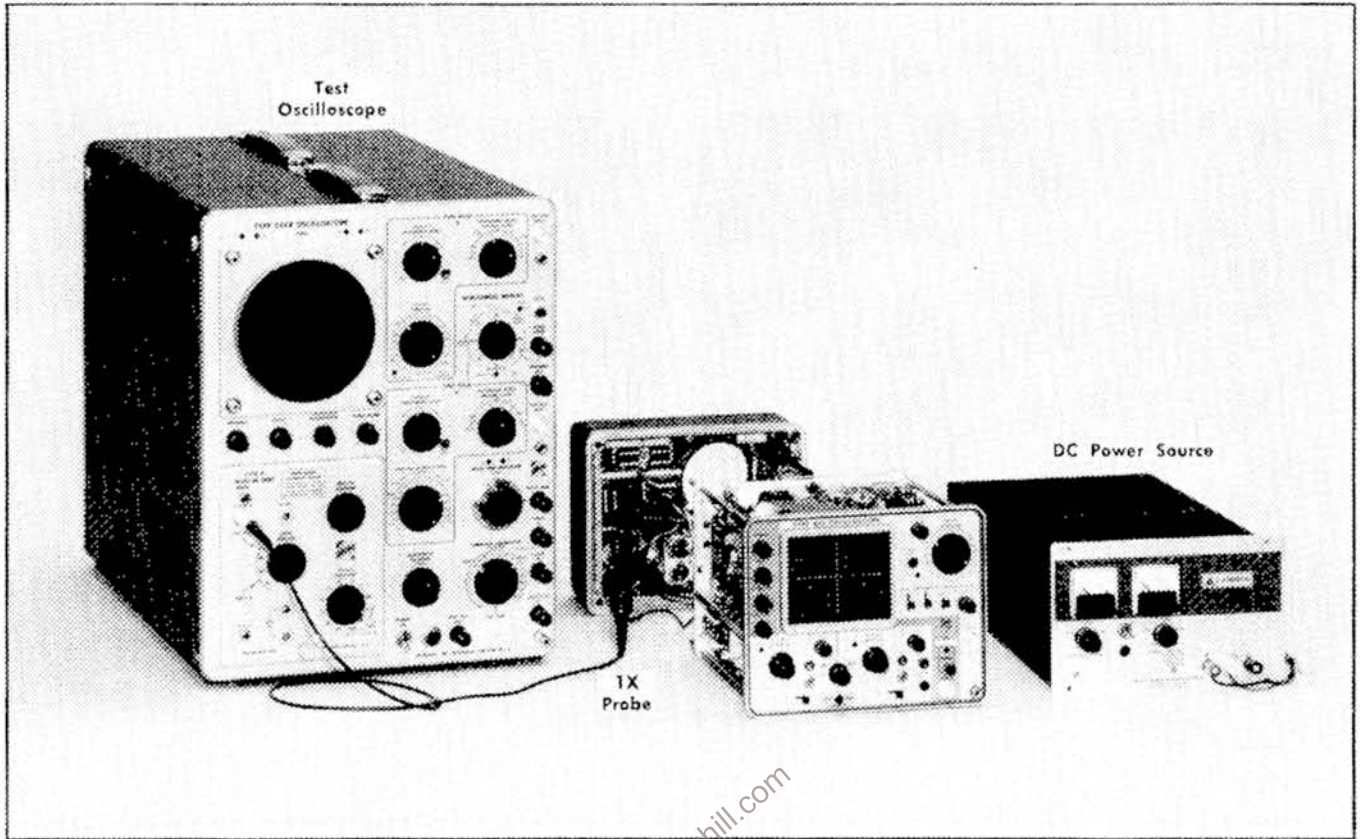

Fig. 6-3. Test equipment setup for Blocking Oscillator Frequency adjustment.
- a. Test equipment setup is shown in Fig. 6-3.